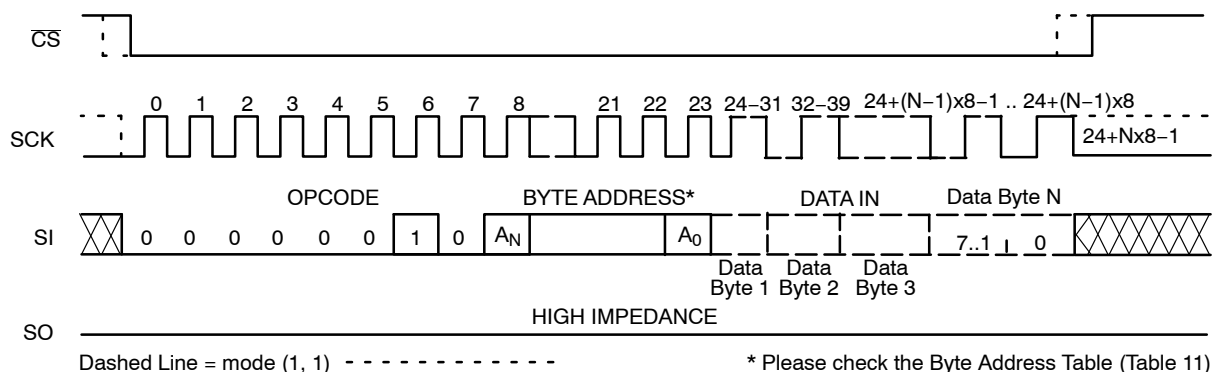

Figure 6. Page WRITE Timing
After sending the first data byte to the NV25xxx, the host may continue sending data, up to a total of 32 bytes, according to timing shown in Figure 6. After each data byte, the lower order address bits are automatically incremented, while the higher order address bits (page address) remain unchanged. If during this process the end of page is exceeded, then loading will “roll over” to the first byte in the
The additional 32–byte Identification Page (IP) can be written with user data using the same Write commands sequence as used for Page Write to the main memory array (Figure 6). **The IPL bit from the Status Register must be set (IPL = 1) using the WRSR instruction, before attempting to write to the IP.** The address bits [A15:A5] are Don't Care and the [A4:A0] bits define the byte address within the Identification Page. In addition, the Byte Address must point to a location outside the protected area defined by the BP1, BP0 bits from the Status Register. When the full memory array is write protected (BP1, BP0 = 1,1), the write instruction to the IP is not accepted and not executed. Also, the write to the IP is not accepted if the LIP bit from the Status Register is set to 1 (the page is locked in Read-only mode).